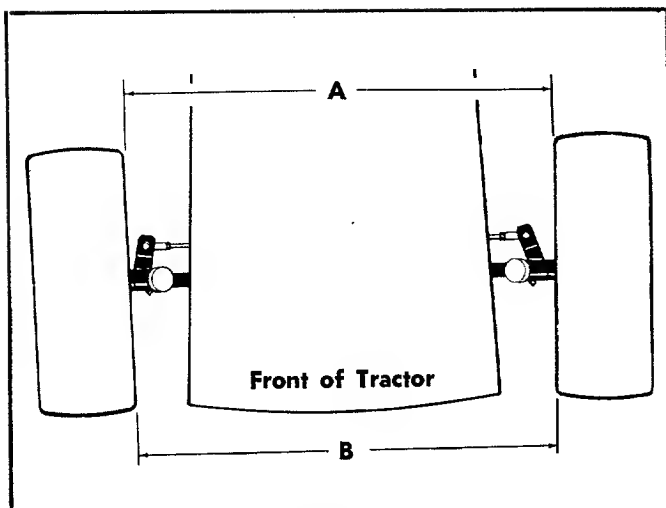

FIGURE 20. TOE-IN DIAGRAM
- Step 3. Adjust the tie rod end in or out to obtain the proper toe-in adjustment as shown in figure 20.